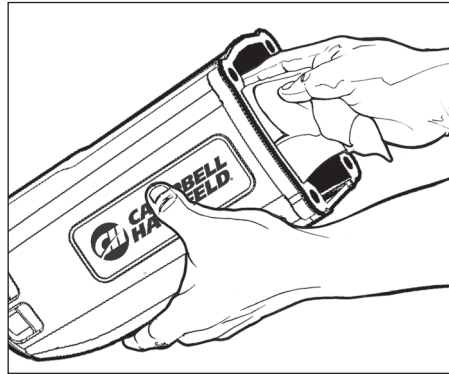

Figure 12
3. Use a clean cloth to wipe off remaining degreaser cleaner and dirt (see Figure 12). Repeat step 2 to remove heavy deposits or remaining residue.